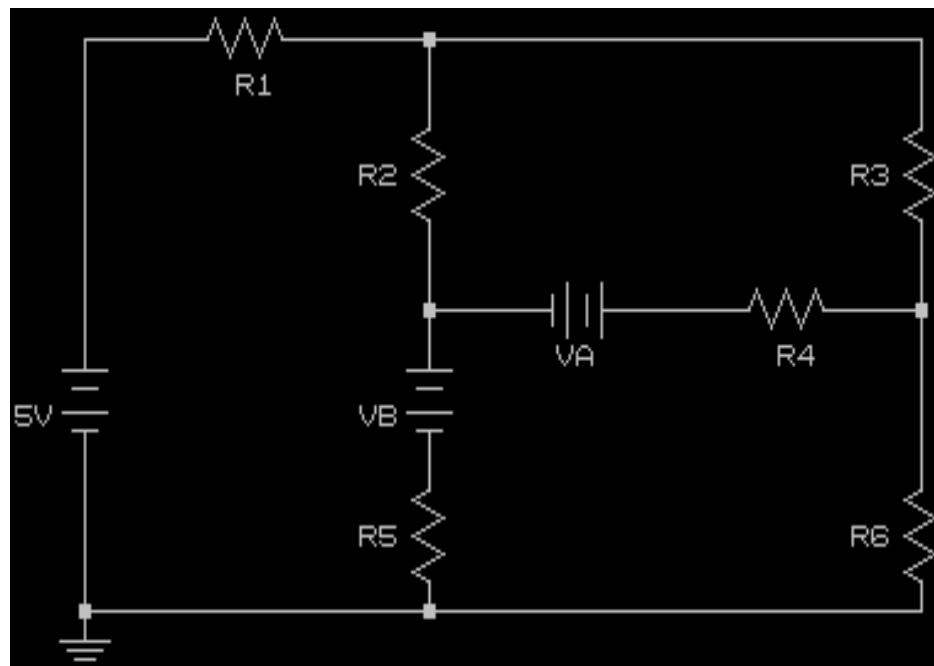

Figure 4 - Record **MEASURED** Resistor Voltages & Calculated Currents Above
- _6) measure the voltage across each resistor in your circuit, and record those voltages (with polarity) on Fig. 4. Now, using these measured voltages, calculate the current through each resistor. Record these currents (magnitude and direction) on Fig. 4 as well. Also, record voltages and currents in the table you created in step 1.
IA, IB, and IC (see step 2). Record these *measured* currents (magnitude and direction) on Fig. 4. Also, complete Table I.